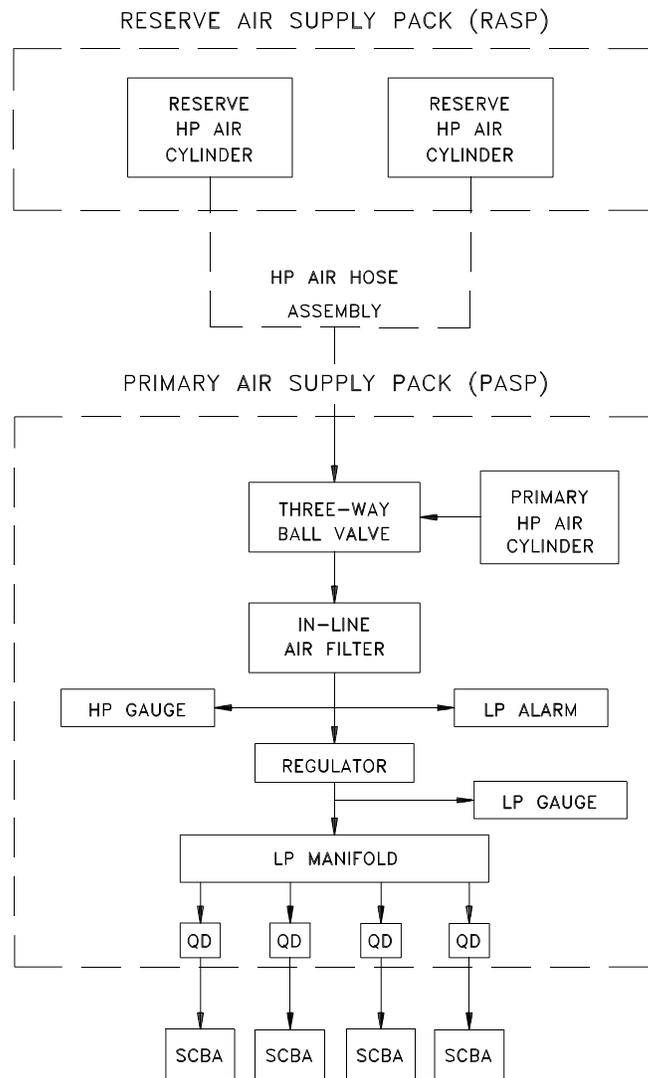

Figure 3-5. SAR/SCBA Airflow Diagram
**3.4.1 SAR Airflow Process.** High-pressure air, Grade D or higher, supplies the SAR/SCBA system. Under normal operating conditions, PASP/RASP HP air cylinders serve as the external source of air for SCBA users. Figure 3-5 illustrates the airflow process. Compressed air flows from the PASP and RASP air cylinders through HP air hoses connected to the PASP CPA. A three-way ball valve on the PASP CPA allows the operator to select the on-line cylinder. When the three-way ball valve is in the open position, the airflow process begins. An air filter below the three-way ball valve collects particulate matter before the air reaches the regulator. The HP and LP gauges monitor airflow pressure to and from the regulator. The LP alarm sounds when the air pressure drops to 500 psig. The alarm alerts the PASP/RASP operator to switch to the on-line cylinder.